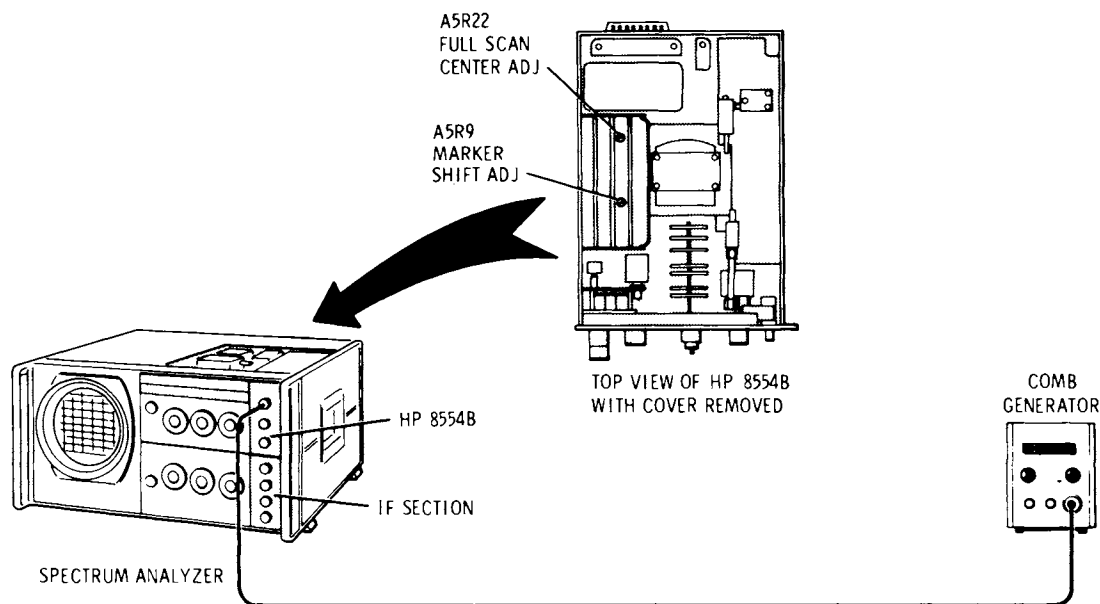

Figure 5-11. 0–1250 MHz Scan and Marker Shift Adjustment Test Setup
3. Apply power to analyzer and allow at least two hours for stabilization. With the test setup as shown in Figure 5-11, make the following control settings: